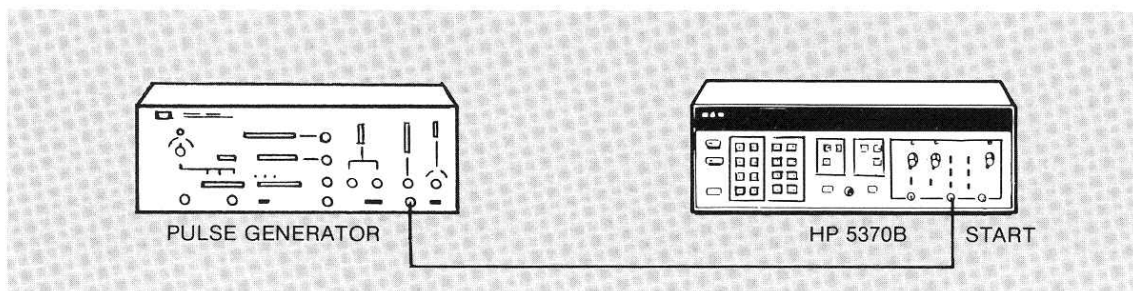

Figure 12. Equipment set-up for transition time calibration.
- 1) Connect the equipment as shown in Figure 12.